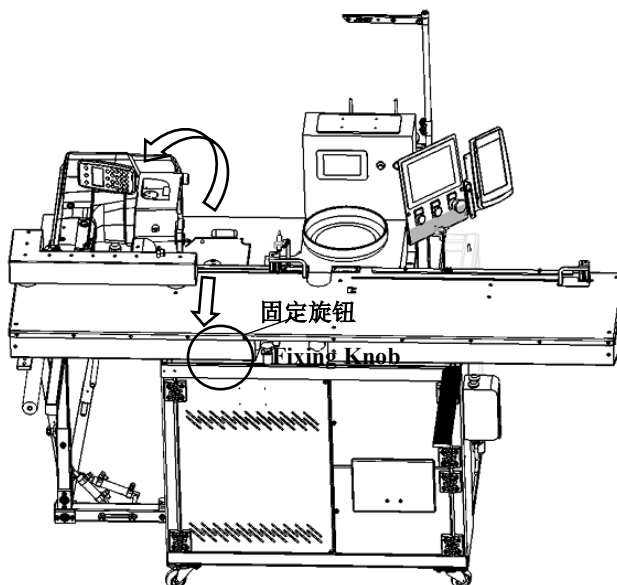

图 8.4 机头维修翻转图 Figure 8.4 Head repairing reverse drawing
- 旋松如图（图 8.4）所示部位的塑料固定旋钮，拉动缝台将整个移料部件移到最外面。
● Loosen the plastic fixing knob shown in FIG. 8.4 and pull the sewing table to move the whole material shifting part to the outermost part.